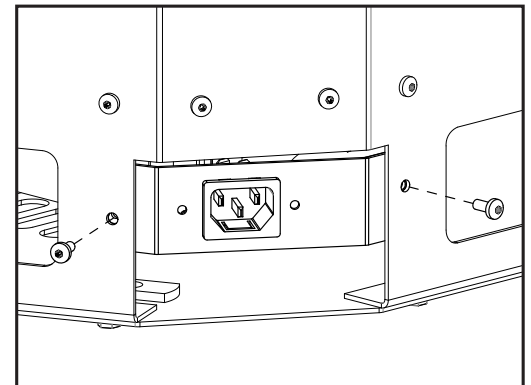

Figure 79: Electrical Plug Disconnect
1. Disconnect the IEC outlet plate (see Figure 79).